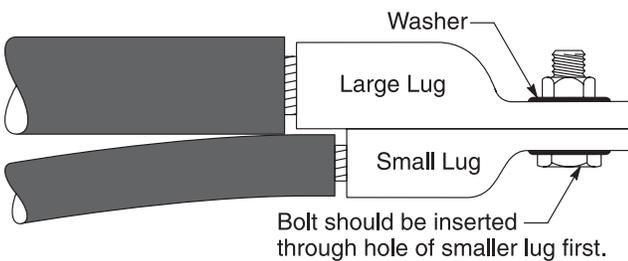

Figure 1
3. Bolt lugs together. See Table 1 for maximum bolt length, and Figure 1 for proper bolt/lug arrangement.